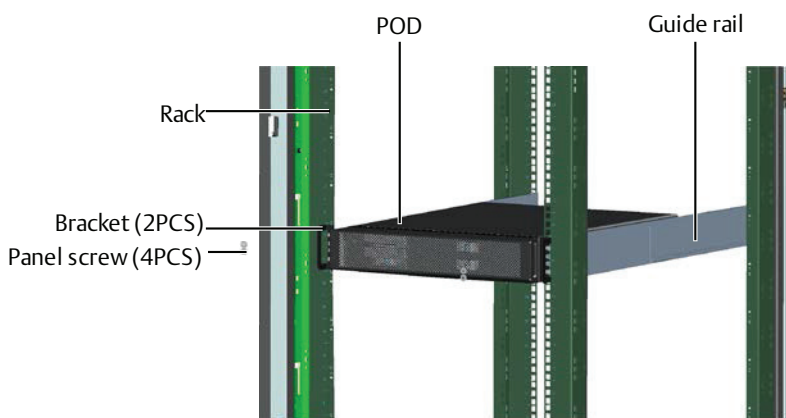

Figure 2-6 Installing the POD
3. Place the POD onto the guide rails of the rack, and push the POD completely into the rack. Use four panel screws (M6 × 16) to fix the POD on the rack through the brackets, as shown in Figure 2-6.